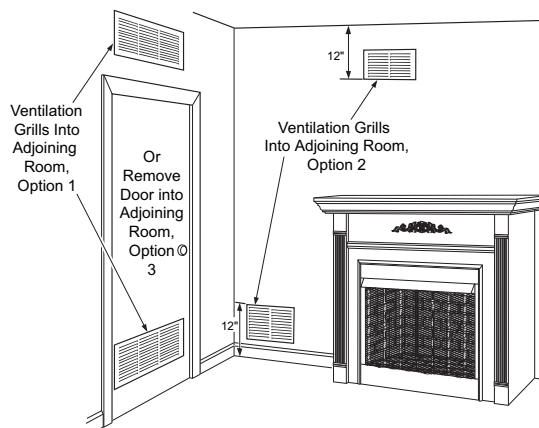

Figure 4 - Ventilation Air from Inside Building
This fresh air would come from an adjoining unconfined space. When ventilating to an adjoining unconfined space, you must provide two permanent openings: one within 12" of the ceiling and one within 12" of the floor on the wall connecting the two spaces (see options 1 and 2, **Figure 4**). You can also remove door into adjoining room (see option 3, **Figure 4**). Follow the *National Fuel Gas Code, ANSI Z223.1/NFPA 54, Air for Combustion and Ventilation* for required size of ventilation grills or ducts.
- where curtains, furniture, clothing, or other flammable objects are less than 36" from front or 42" from top of firebox; for side clearances see *Figure 4, Page 11*
Example: The face of a mantel, bookshelf, etc. is made of combustible material and protrudes 3-1/2" from the wall. This combustible material must be 4" from the side of the fireplace cabinet (see **Figure 4**).